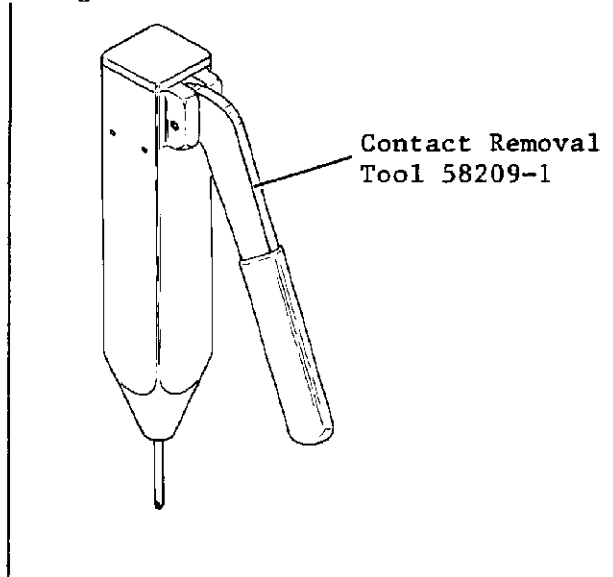

Fig. 11. ACTION PIN Contact Replacement Tooling
4.8. Damaged individual ACTION PIN contacts can be removed and replaced using AMP Pin and Contact Replacement Tool Kit 265871-7 (see IS 9142), or AMP Contact Removal Tool 58209-1 (see IS 9185). These tools are illustrated in Figure 11.